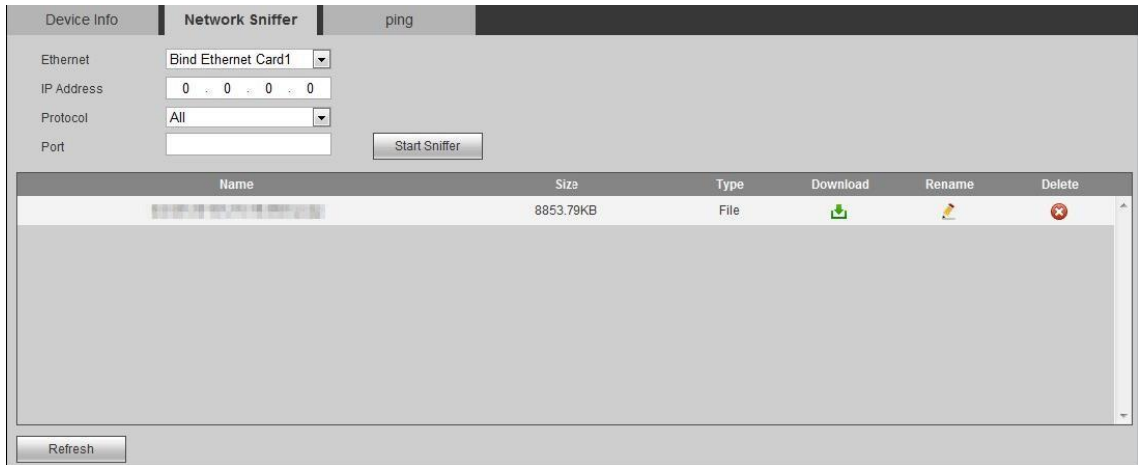

Figure 4-116
Step 3 Click "Stop Sniffer" after some time. The system displays the captured data packets, as shown in Figure 4-116.